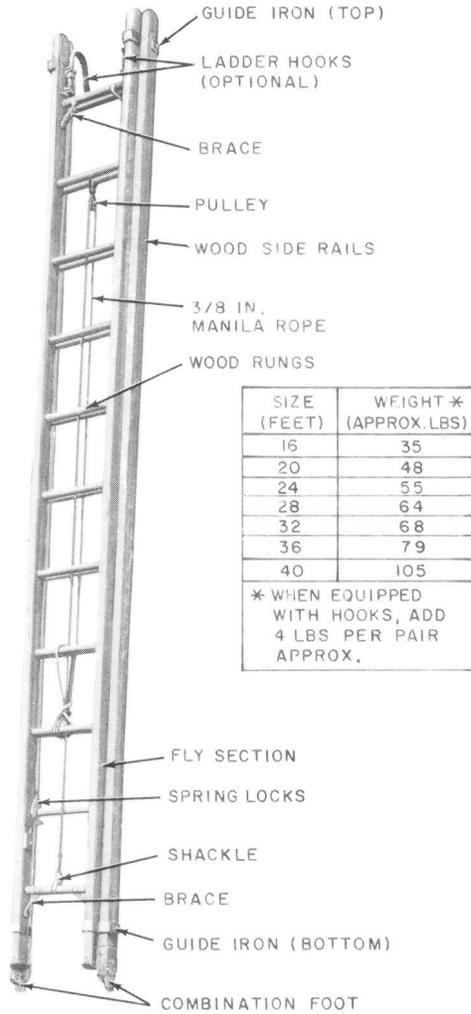

Fig. 1—C Extension Ladder
2.01 Extension ladders and their features are listed in Table A and are shown in Fig. 1, 2, and 3.